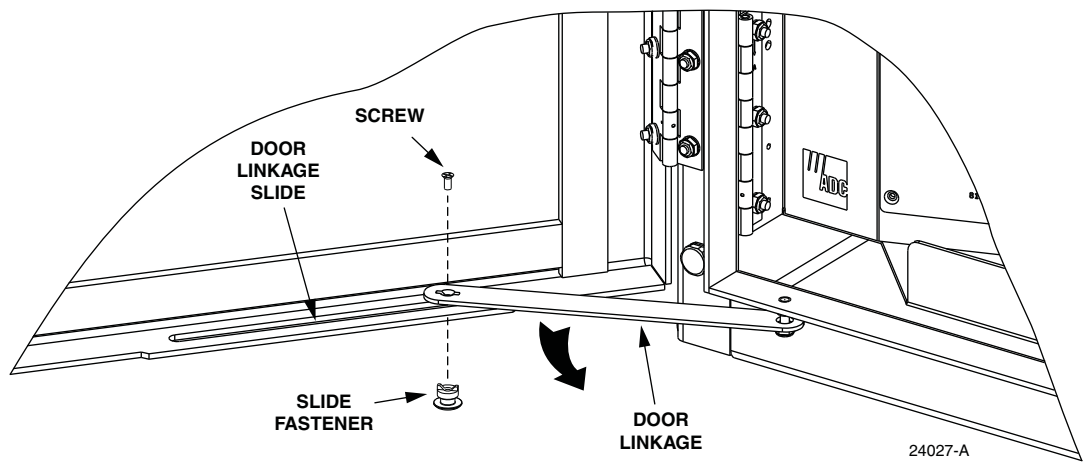

Figure 62. Door Linkage Hardware
2. Use a Phillips screwdriver to remove the screw and slide fastener that secure the door linkage to the door as shown in Figure 62. Save the screws and slide fastener for reuse.